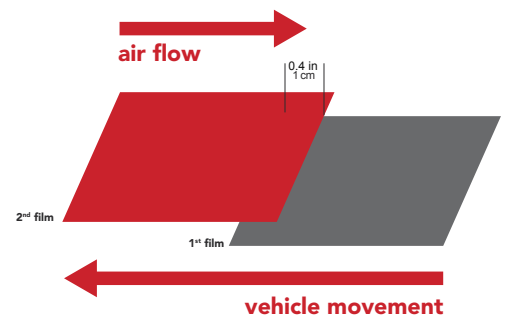

Figure 23
- Vertical overlap on a mobile surface: Assuming you always apply the film starting from the rear of the vehicle and moving to the front, then the overlapping will be done in the same way. (FIG. 23)